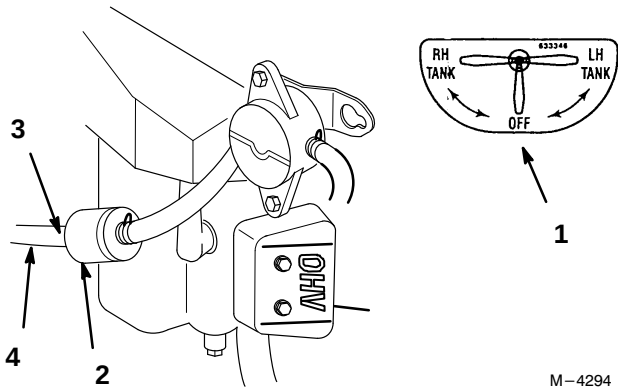

Figure 33
5. Install a new filter and move the hose clamps close to the filter (Fig. 33).
2. Close fuel shut-off valve (Fig. 33).
3. Loosen the hose clamp at the fuel filter and slide it up the fuel line away from the fuel filter (Fig. 33).
4. Pull the fuel line off fuel filter (Fig. 33).
5. Open fuel shut-off valve for left and right tanks. Allow gasoline to drain into a gas can or drain pan. (Fig. 33).
6. Install the fuel line onto the fuel filter. Slide the hose clamp close to the fuel filter to secure the fuel line (Fig. 33).